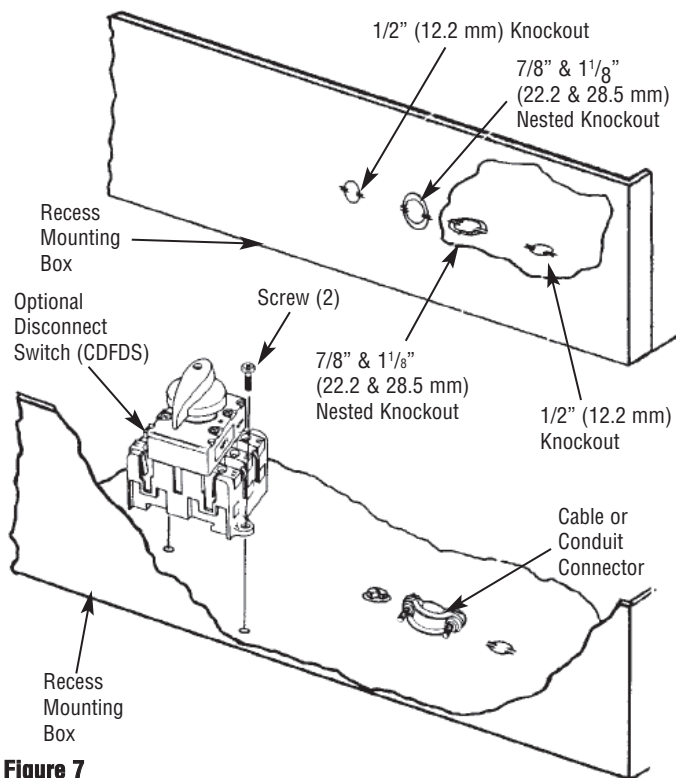

Figure 7
4. Remove recess mount box from assembly. Remove four (4) nuts from studs so heater can be removed from recess mounting box. Do not discard nuts since these will be used in Step 13 to mount heater section back on to the recess mounting box.
5. Remove one of the knockouts and install a cable or conduit connector (Figure 7).
6. Install the optional disconnect switch (if required) as shown in Figure 7.